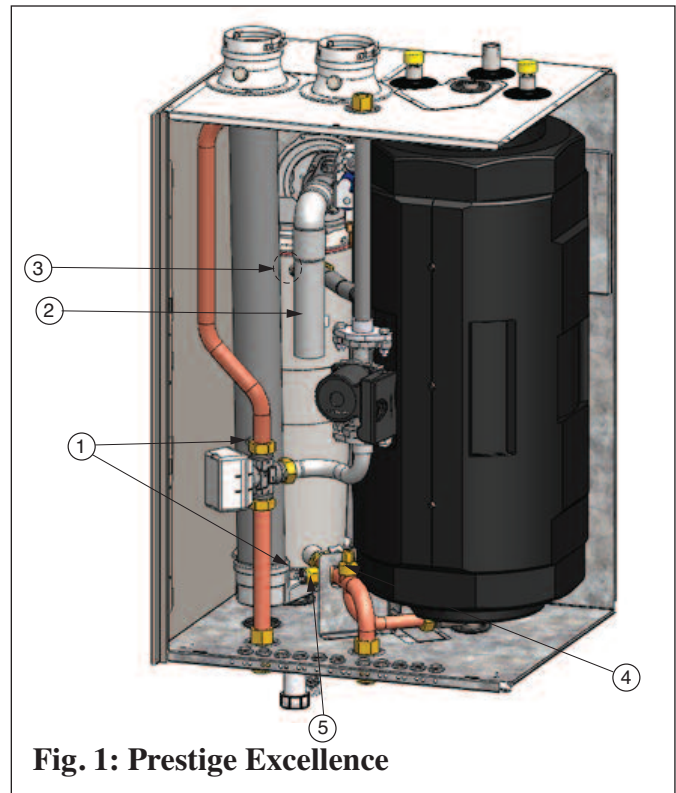

Fig. 1: Prestige Excellence
3. Disconnect the yellow wire leads/Molex plug from the flue temperature sensor (shown as Item 1 in Fig. 1). The flue temperature sensor may be located in the vent pipe or the condensate pan depending on the model. Use care when disconnecting the wire leads as not to damage the sensor terminals or the wire leads.
3. Disconnect the ignition cable from the MCBA control module and remove air intake pipe from venturi. (Shown as item 2 in Fig 1). Place the intake pipe and ignition cable aside, DO NOT discard as they will be re-used.
9. Disconnect the red wire leads from supply temperature sensor (Shown as item 3 in Fig. 1) located at the top of the heat exchanger.
10. Disconnect the blue wire leads from return temperature sensor (Shown as item 4 in Fig. 1) located at the bottom of the heat exchanger.
11. Disconnect the orange wire leads from the Low Water Cut-Off (LWCO) pressure switch (Shown as item 5 in Fig. 1). Use care when disconnecting the wire leads as not to damage the LWCO terminals or the wire leads.
5. Remove air intake pipe (Shown as item 2 in Fig. 1) from venturi. Place the intake pipe aside, DO NOT discard as it will be re-used.
8. Disconnect the Molex plug from supply temperature sensor (Shown as item 3 in Fig. 1) located at the top of the heat exchanger.
10. Disconnect the orange wire leads from the Low Water Cut-Off (LWCO) pressure switch (Shown as item 5 in Fig. 1). Use care when disconnecting the wire leads as not to damage the LWCO terminals or the wire leads.